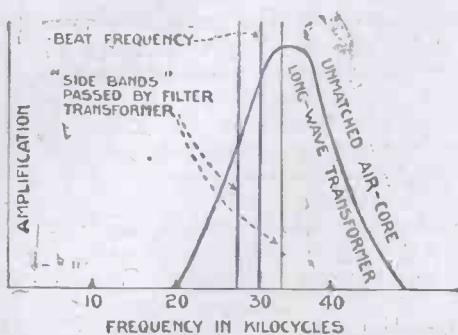

Fig. 2.—Resonance Curve of Unmatched Air-Core Transformer.
Winding is commenced at the first groove in rod No. 1, Fig. 2 (A), by making a loop as in Fig. 3 (A), and finished off in a similar way when all the turns have been completed.
Another disadvantage in the use of an air-cored transformer is its uneven amplification of the "sideband." Without going into explanations of the side-band frequencies, let it be sufficient that all H.F. amplifiers for broadcast wavelengths must amplify equally all frequencies from 4,000 less than the carrier-wave frequency up to 4,000 cycles above it. If we reduce the carrier-wave frequency to 30,000 cycles (30 kilocycles) intermediate frequency, the 4,000 cycle side-band extends well down from the peak of the sharp resonance curve of an air-core transformer, causing distortion. This will be seen on glancing at Figs. 2 and 3, which are resonance curves
of air-core transformers. Fig. 2 shows the curve of a fixed air-core transformer not perfectly matched with the first "filter," or first stage of long-wave amplification. Fig. 2 shows a similar curve of a similar transformer correctly tuned by a condenser. It will be noticed that the resonance peak is too sharp.